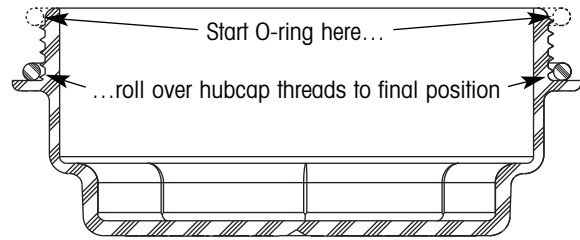

Figure 18. Hubcap O-ring installation details
14. If a new O-ring is required, install it by rolling it over the hubcap threads (figure 18).
5. Install a new O-ring by rolling it over the hubcap threads (figure 18).